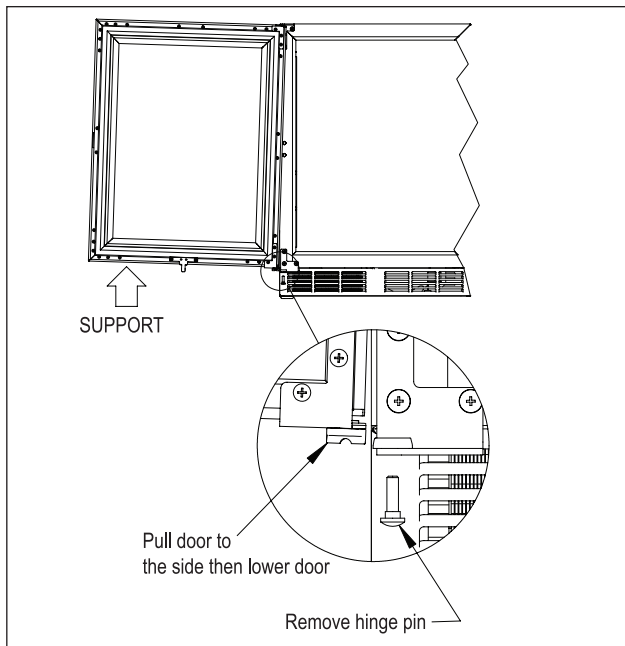

Figure 7. Door Removal
1) Support the door in the open position as shown in Fig. 7 on page 9. Remove the hinge pin.